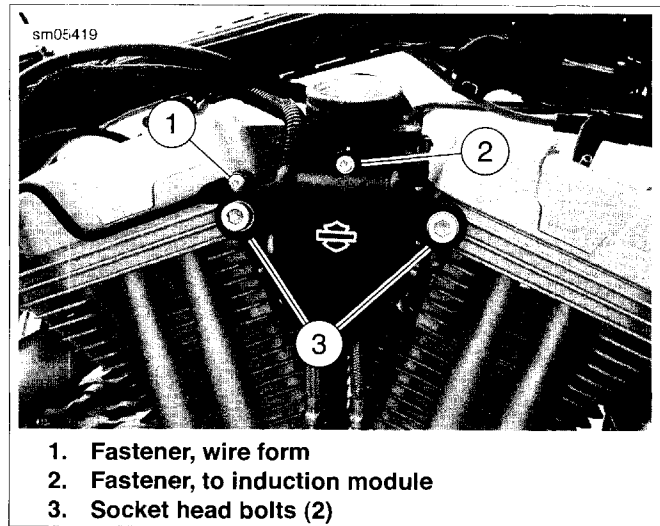

Figure 4-50. Induction Module Cover
4. See Figure 4-50. Remove socket head bolts (3), fastener (1) and fastener (2).
- a. Front fuel injector (3) connector [84],
- b. Rear fuel injector (4) connector [85],
- c. TMAP sensor (5) connector [80],
- d. IAC (6) connector [87],
- e. TP sensor (7) connector [88].
13. See Figure 4-50. Install induction module cover. Secure TP sensor harness to cover during installation using a **new** cable strap with anchor. Install all fasteners finger tight before final tightening any. Tighten socket head bolts (3) to 20-24 ft-lbs (27.1-32.5 Nm). Tighten fastener (2) to 84-108 **in-lbs** (9.5-12.2 Nm). Tighten fastener (1) to 84-108 **in-lbs** (9.5-12.2 Nm).